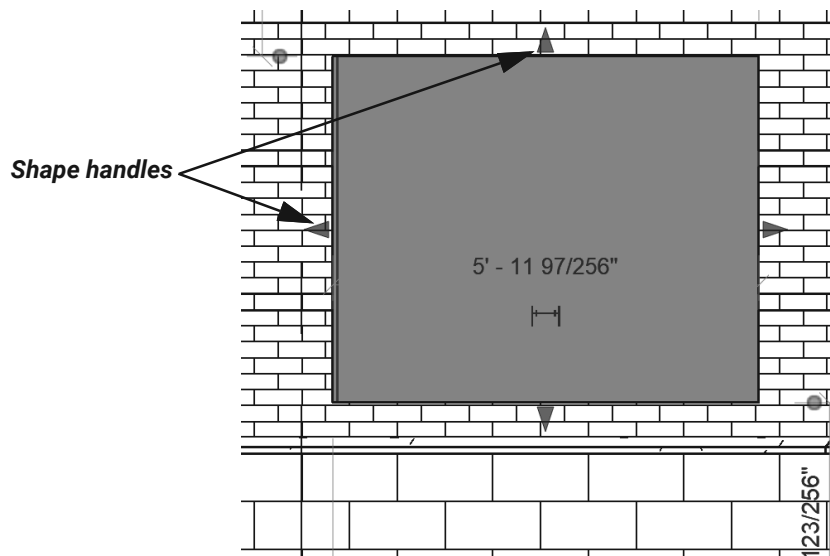

Figure 7–31
- You can use temporary dimensions to size the opening while in the command and both temporary dimensions and shape handles to modify the opening when it is selected, as shown in Figure 7–31.